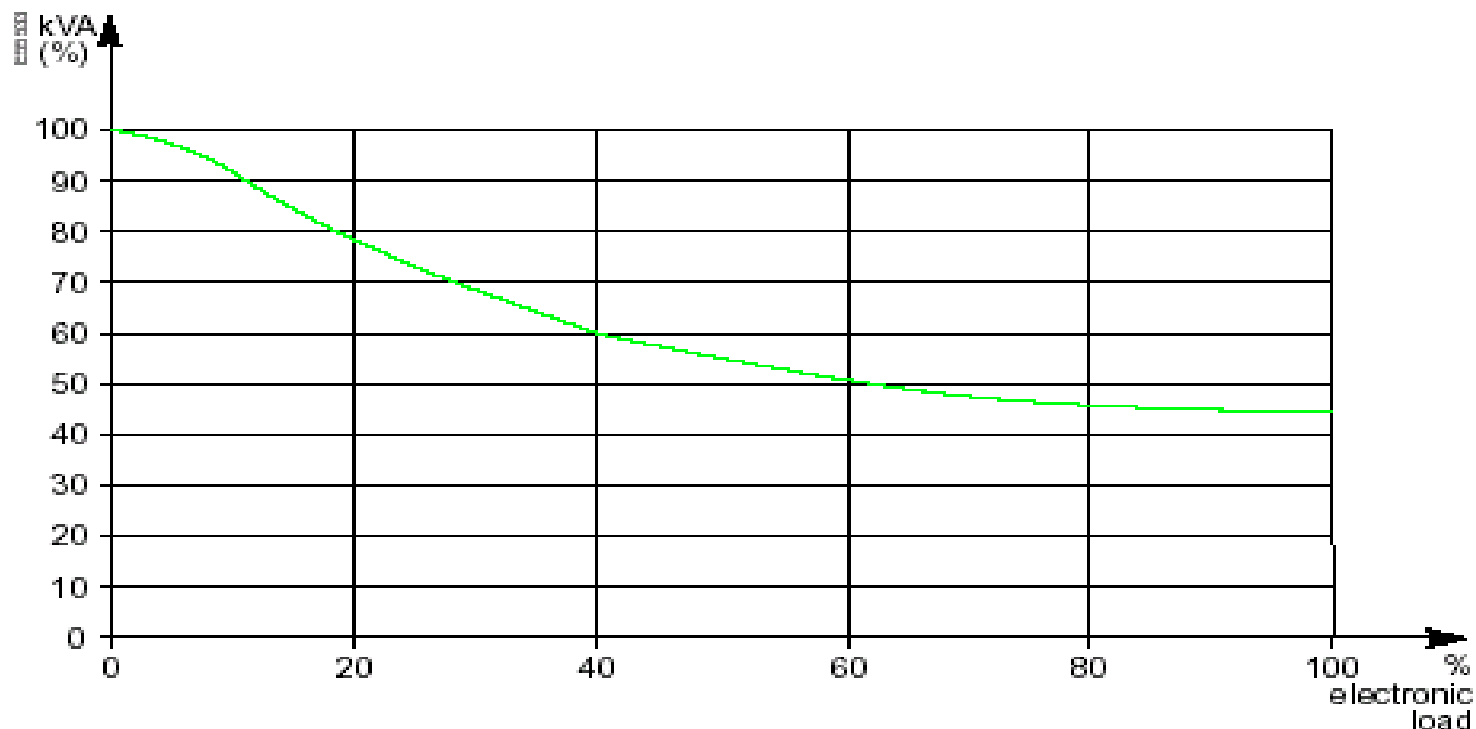

Figure 9 - derating values for a transformer supplying electronic loads
■ The curve in figure 9 below shows typical derating values for a transformer supplying electronic (i.e. non-linear) loads.